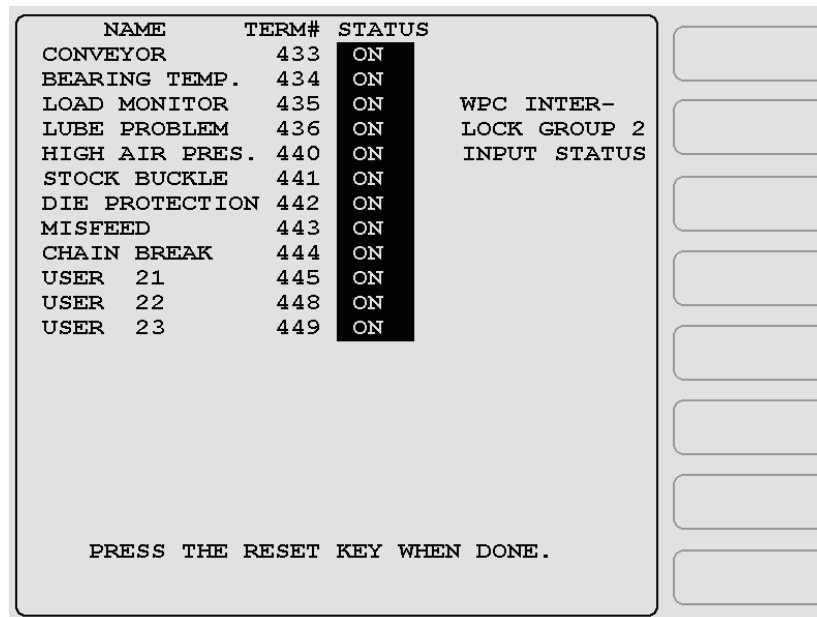

Figure 10. WPC Interlock Group 2 Input Status Screen
2. Press the function key (i.e., F4, F5, or F6) corresponding to the group of user inputs (i.e., Group 1, Group 2, or Group 3) within which the user input whose status you want to view falls. The WPC Interlock Input Status screen for that user input group displays (see Figure 10, below, which uses the Group 2 screen as an example).